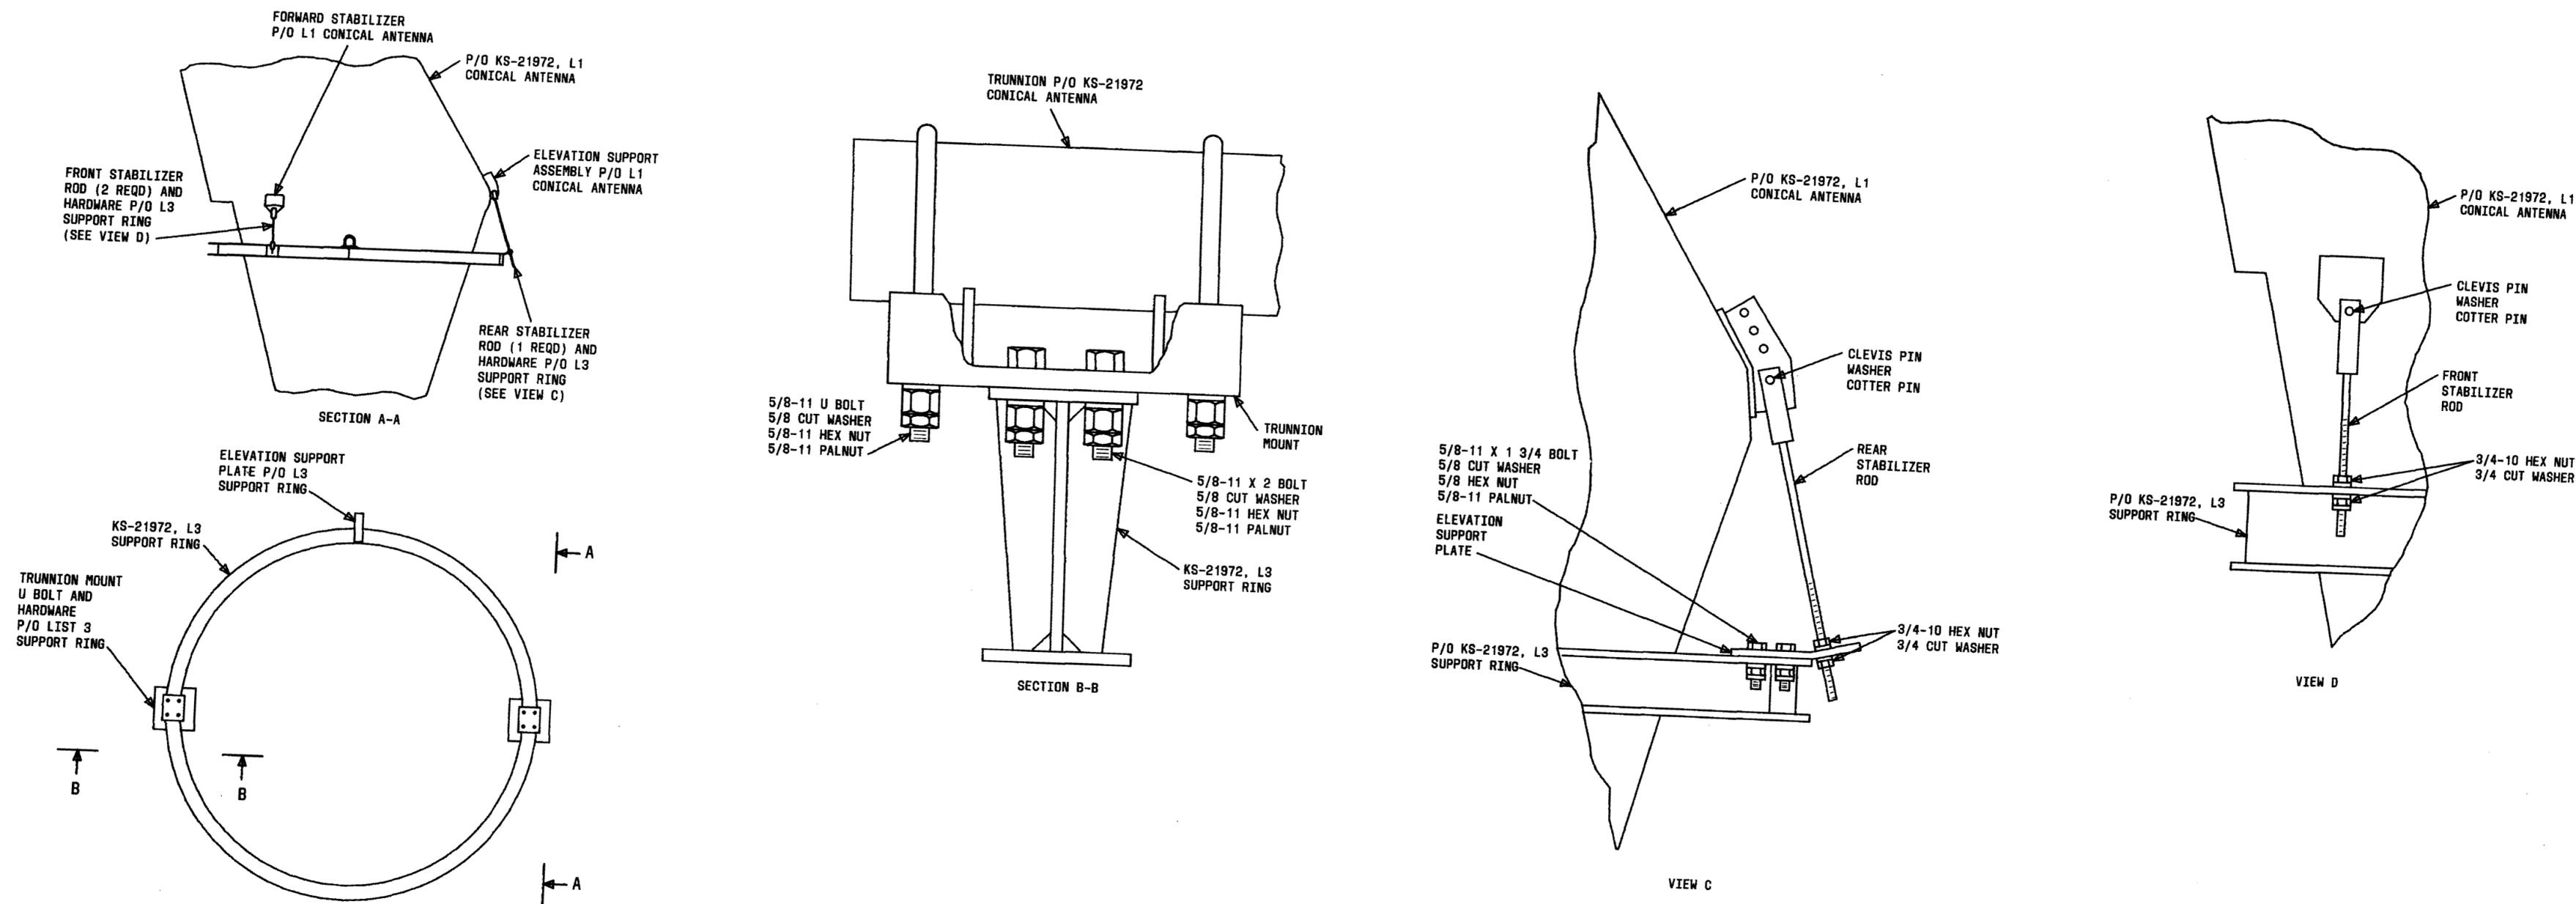

Fig. 11—Assembly of the KS-21972, L3 Support Ring to the L1 Conical Antenna
K. Assembly of List 3 to List 1 (See Fig. 11)